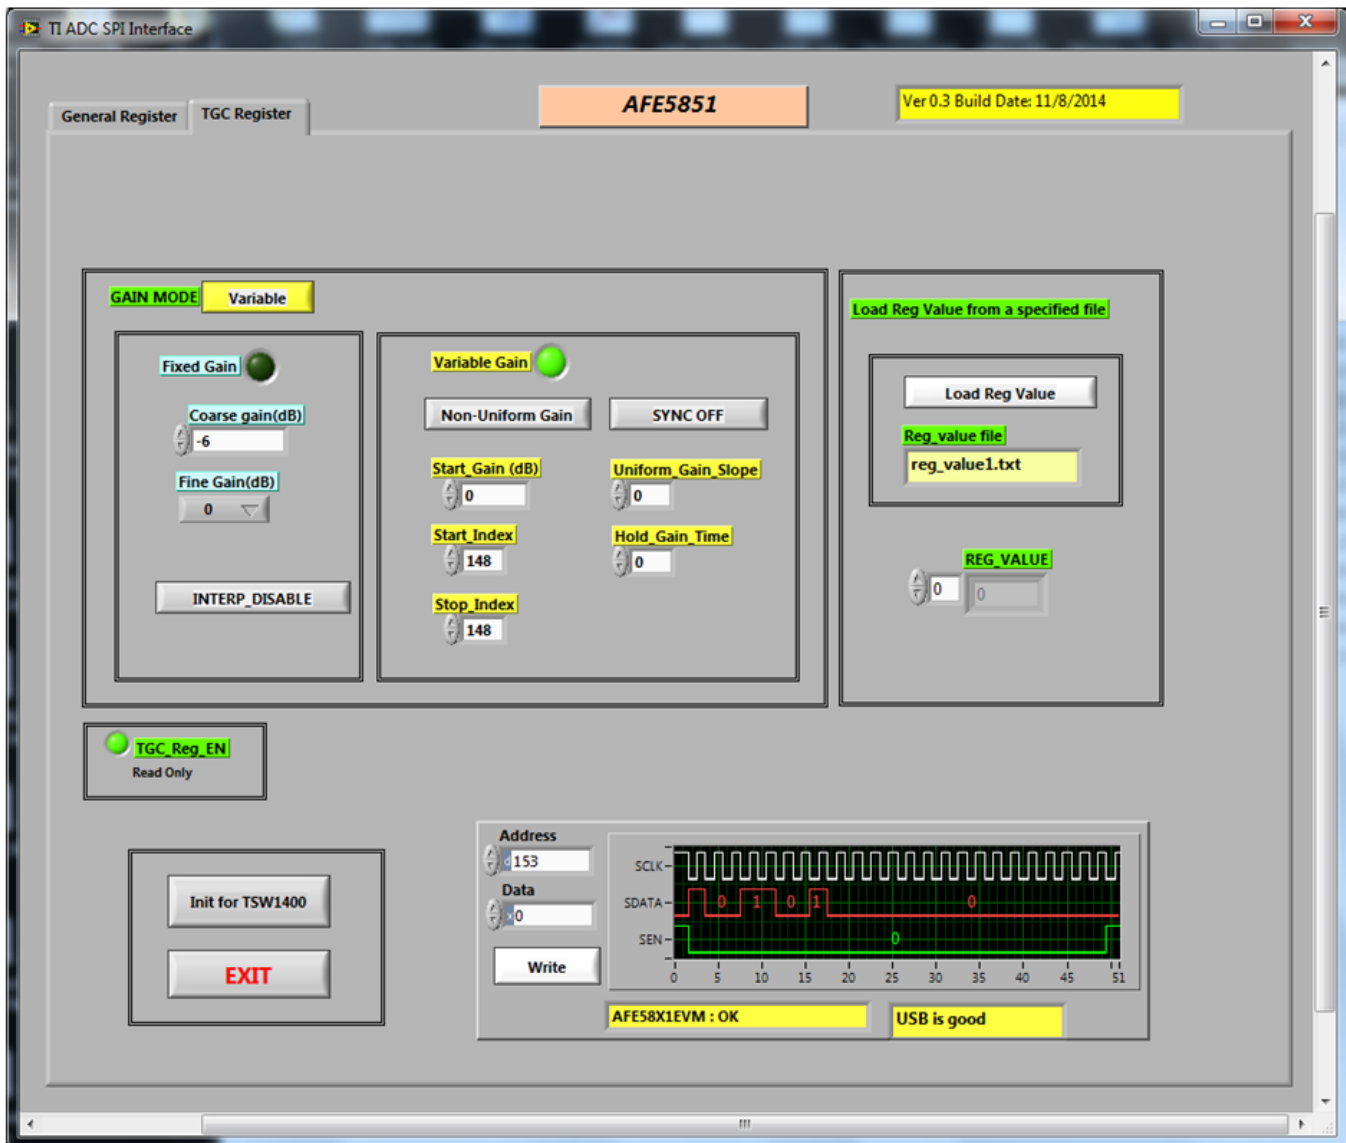
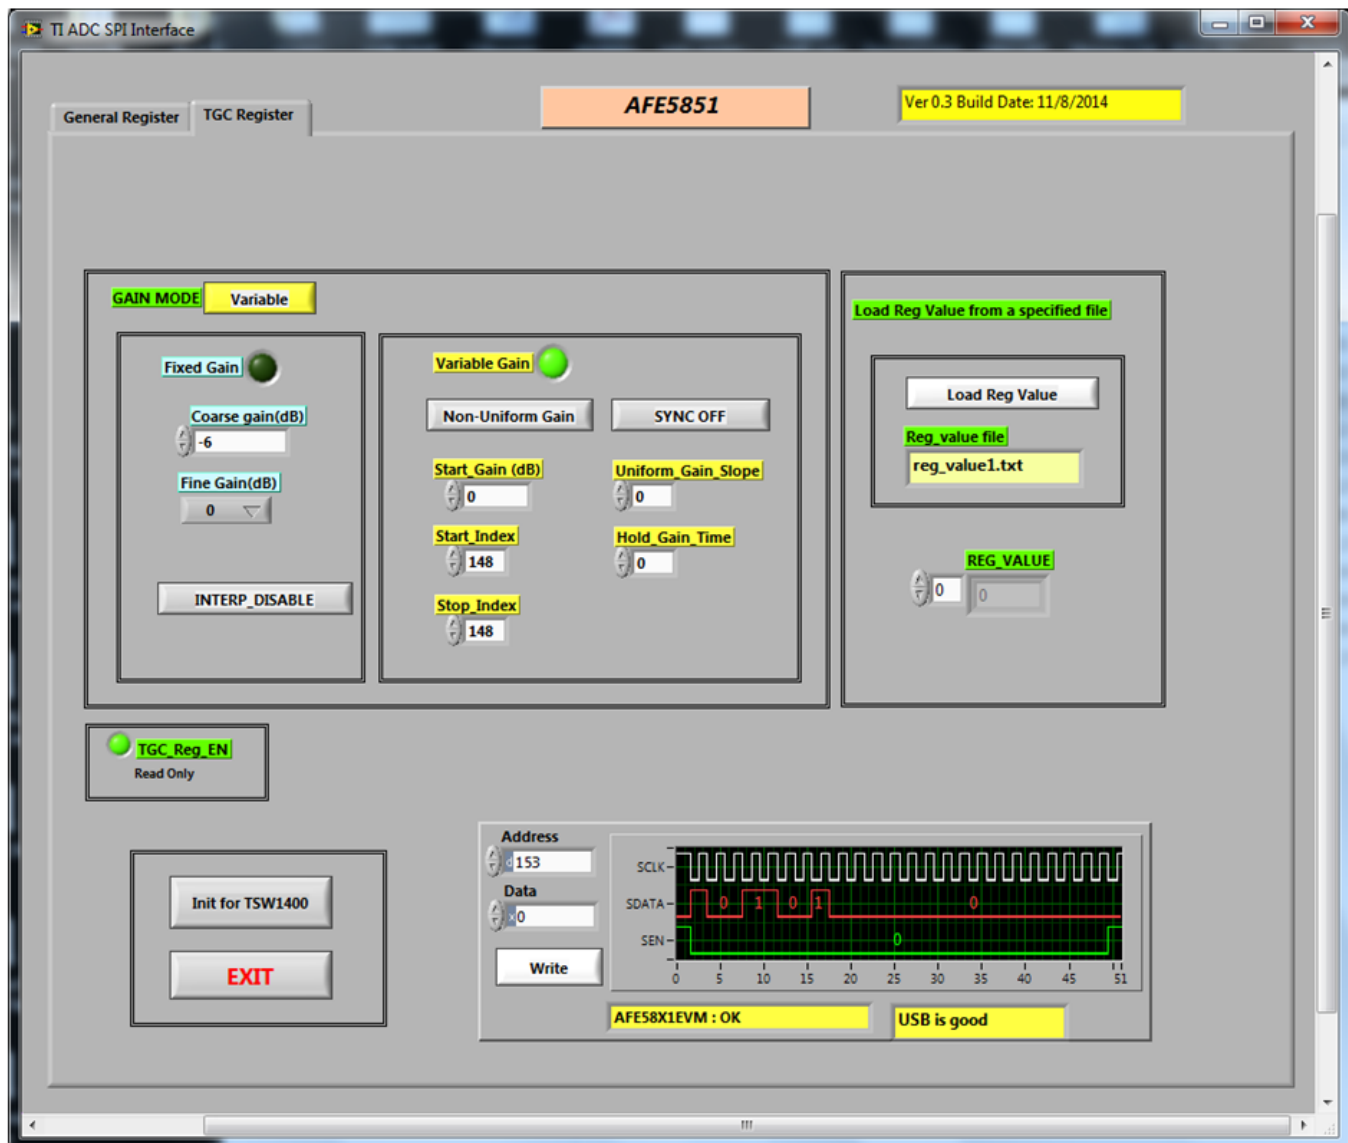

Figure 7. AFE5851EVM USB SPI Interface for General Registers
Figure 9. AFE5851EVM USB SPI Interface for Variable Gain Mode
Different modes exist as shown in Figure 7 through Figure 9.
Figure 7 through Figure 9 show several screen images of the different modes.
- From Figure 7 press "Init for TSW1400" button.
- Select TAB "TGC Register" — Figure 9 will appear.
- From Figure 9 press "Variable" toggle button to enter fixed gain mode.